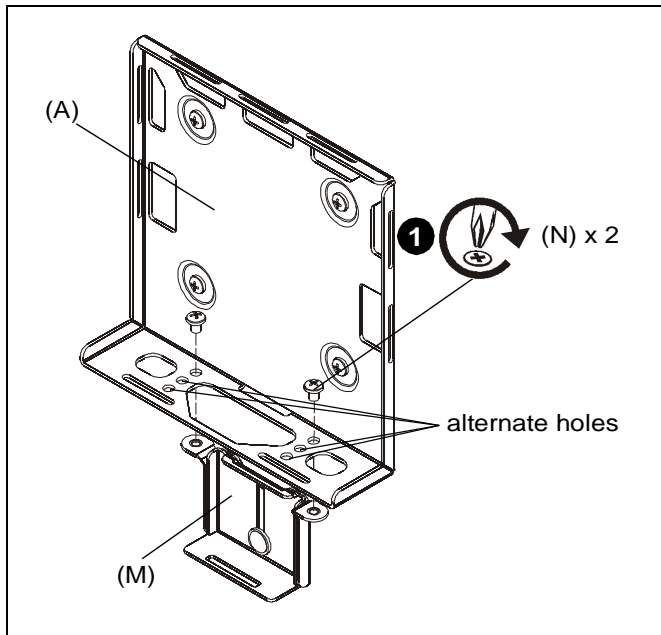

Figure 4
1. Use two #10-24 x 1/4" Phillips pan machine screws (N) to secure power brick bracket (M) to media player bracket (A). (See Figure 4)
NOTE: Alternate holes may be used depending on the size and shape of the power brick adapter. (See Figure 4)